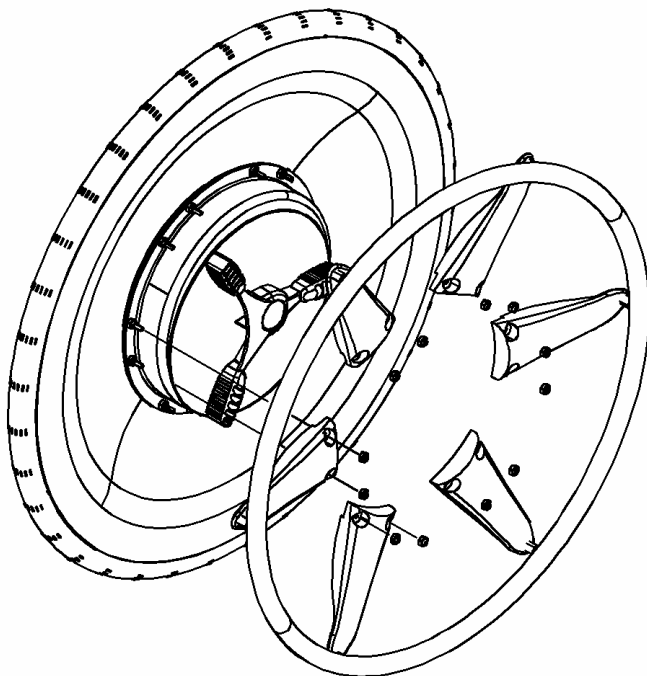

Figure 5 (Handrim Layout)
To change the handrim assembly, locate the (12) black self locking nuts in the spokes around the central drum (See Figure 5) and remove with a 1 1/32" socket wrench. Remove the complete handrim assembly by lifting it off of the drum using the spokes.